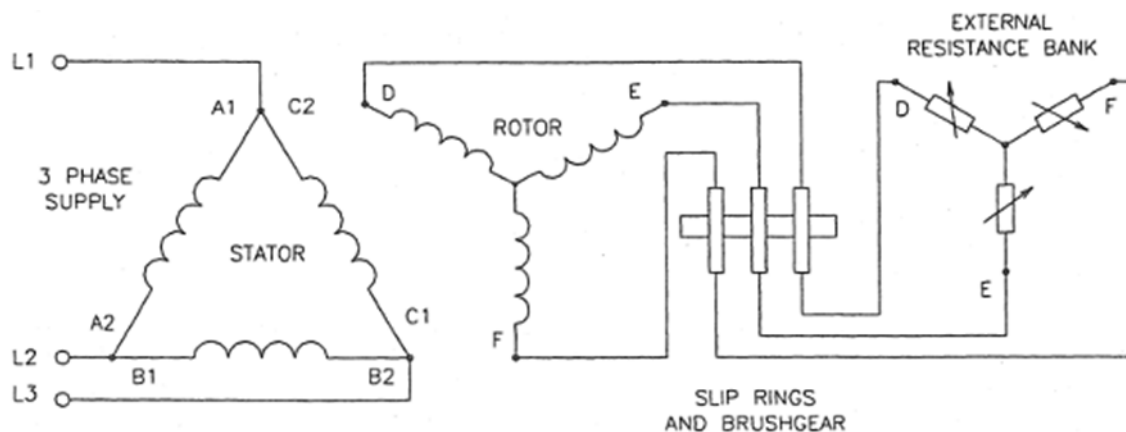

Figure 5 – Stator winding, rotor winding and external rotor resistance bank.
35. A wound rotor motor (also known as a slip-ring motor) has the same type of stator winding as the three-phase squirrel cage induction motor, but it has a star connected rotor winding which is wound with INSULATED copper wire and connected to three slip-rings on the rotor. Unlike the squirrel cage rotor, the rotor winding is insulated from the laminated steel rotor core and the resistance of the rotor circuit can be varied by connecting an external star connected a resistance in series with the rotor winding via the slip rings. Figure 5 shows the relationship between the stator winding, the rotor winding and the external rotor resistances.